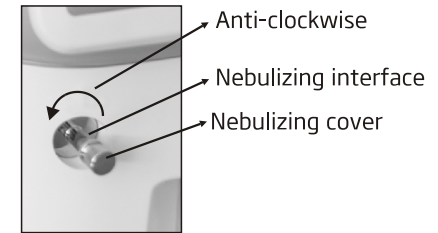

Figure 6
- ▶ Upward pull out the nebulizing cover on the nebulizing interface. (Figure 6)